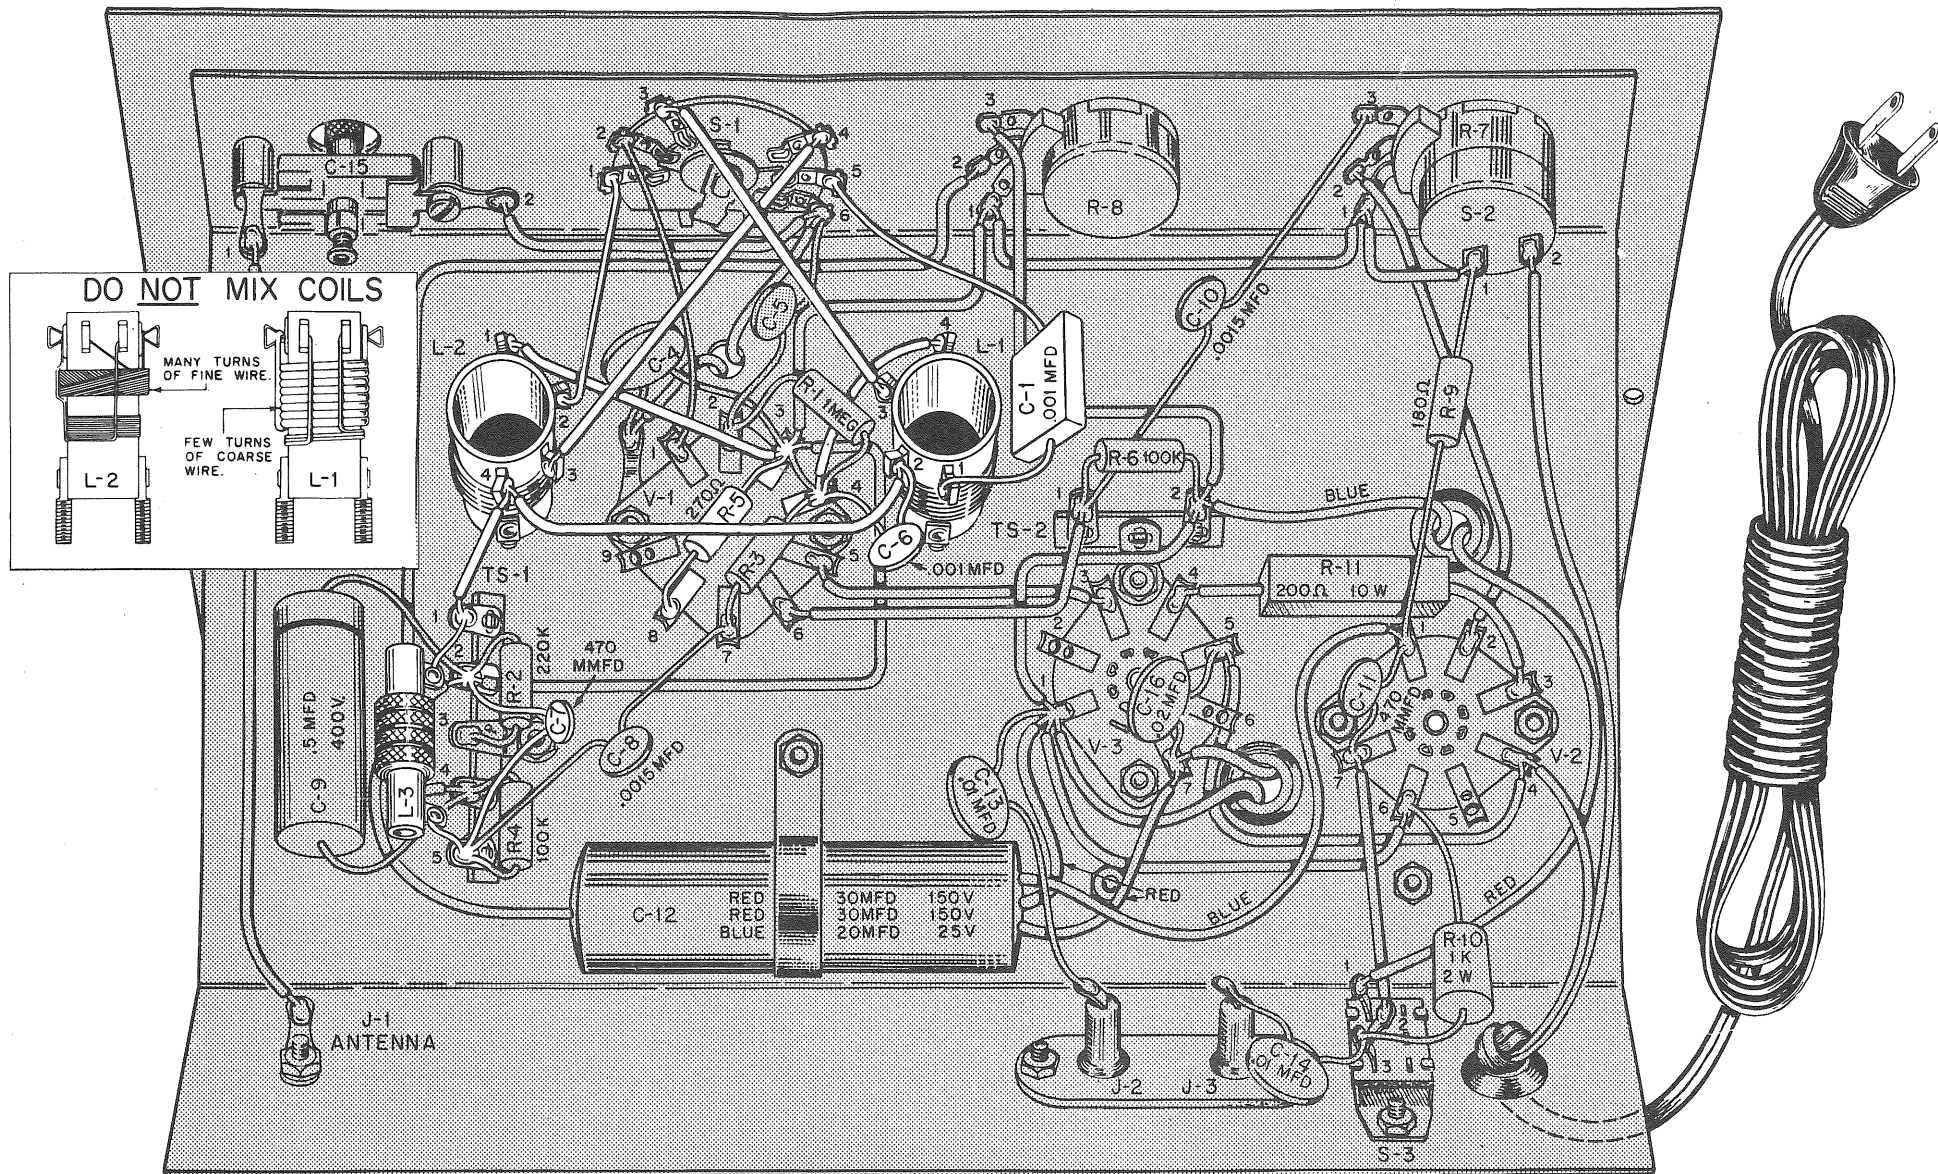

FIGURE 8. SECOND CHASSIS WIRING VIEW
REFER TO FIGURE 8 FOR THE FOLLOWING STEPS:
- ☒ Mount L-1, the coil with few turns of heavy wire, in the position shown in Figure 8 by inserting its threaded mounting studs through the coil mounting holes in the chassis. The terminals on one side of the coil must face V-1. Secure L-1 with one nut on each stud on the outside of the chassis.